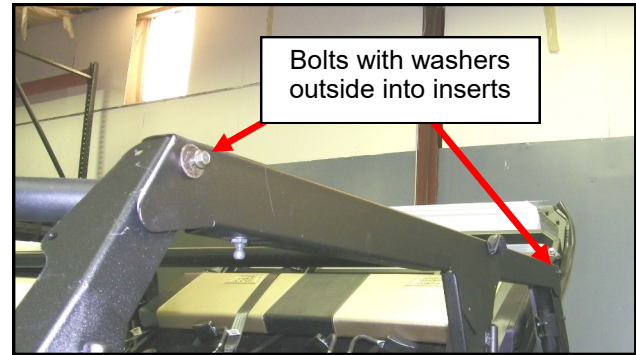

Fig. 7.1 Header placement
- 7.1 Per figure 7.1, place the left Header on top of the upper left ROPS and align the holes in the upper flange of the panel to the holes in the ROPS. Insert a 1/4-20 bolt with washer into the threaded inserts in the A-Pillar and C-pillar and leave loose. Repeat for the right side.